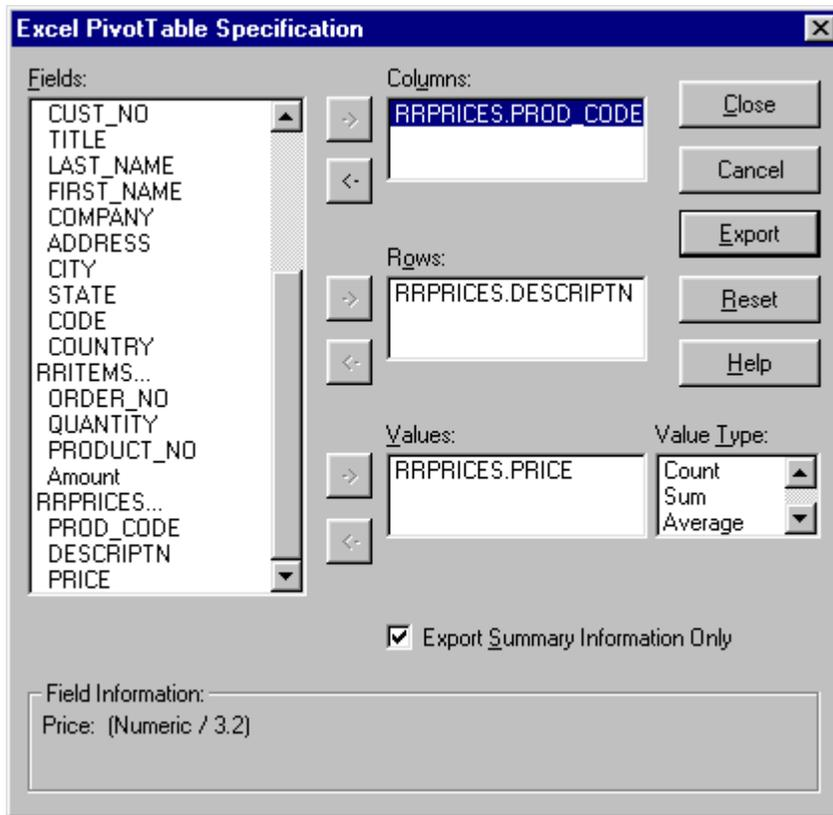

Figure 17.4 Excel PivotTable Specification Dialog
The Excel PivotTable Specification dialog shown in Figure 17.4 displays.
2. On the Excel PivotTable Specification dialog (see Figure 17.4), all fields from the report's composite record structure are shown in the Fields list box. In the Fields list box, highlight the field that you want to supply values for the Column labels (in this case, the DATE field) and click the right arrow button next to the Columns box.